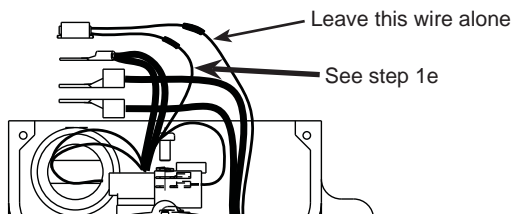

Figure 4 — Thermal Switch Wiring
- e. Disconnect existing wiring harness from thermal switch (see Figure 4):